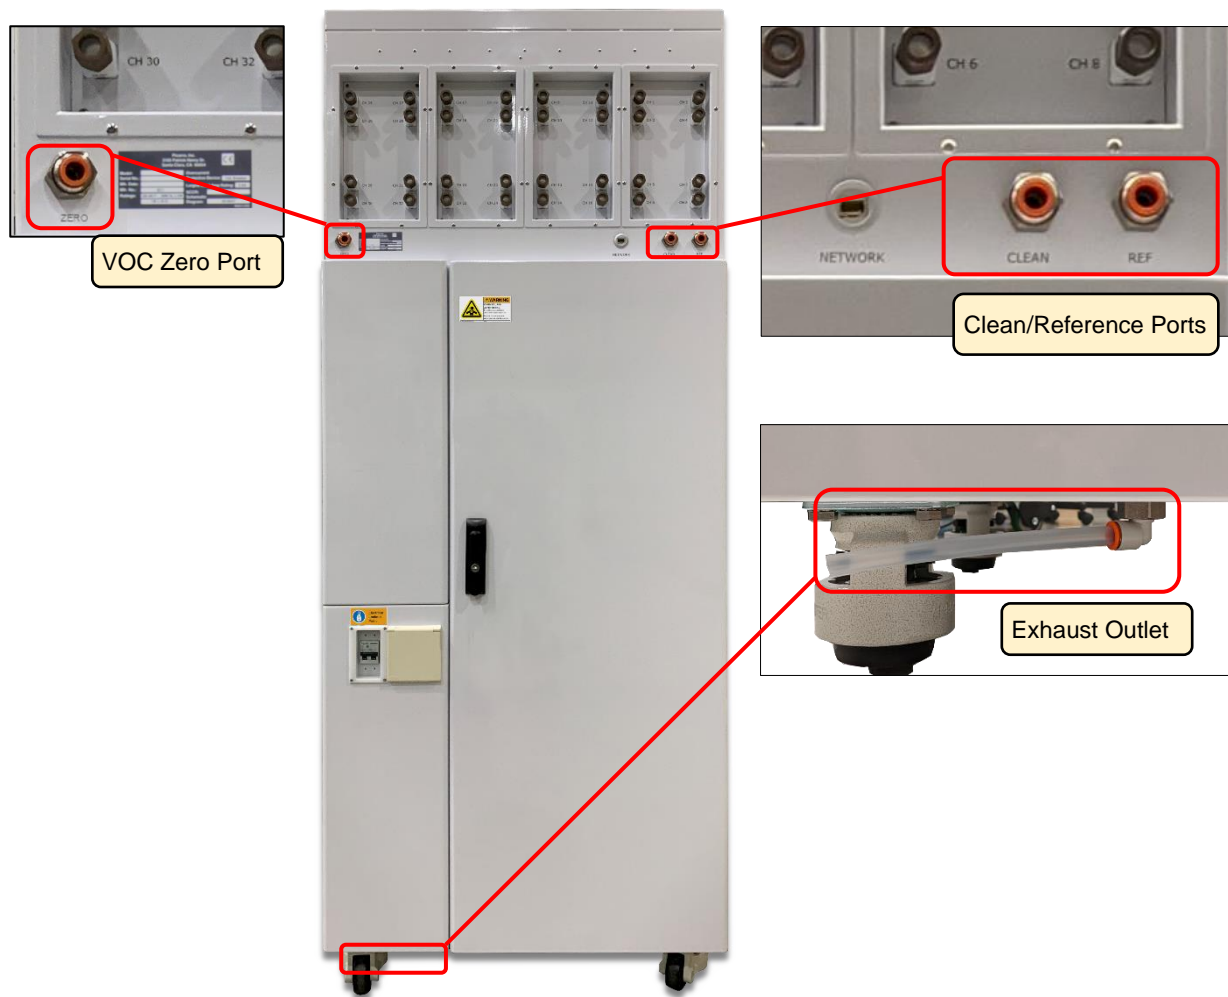

Figure 5: VOC Zero, Clean, Reference Gas, and Exhaust Ports at Rear Panel
- Ambient gas is supplied to the SLiM 100 for VOC Zeroing. Picarro recommends attaching the cleanest ambient air available (e.g., downstream of an air filtering system) to the VOC Zero gas inlet (see Figure 5 below for attachment point).
The line from the Clean source must be plugged into the “CLEAN” fitting, and the line from the Reference Gas tank must be plugged in to the “REF” fitting. See Figure 5 below.